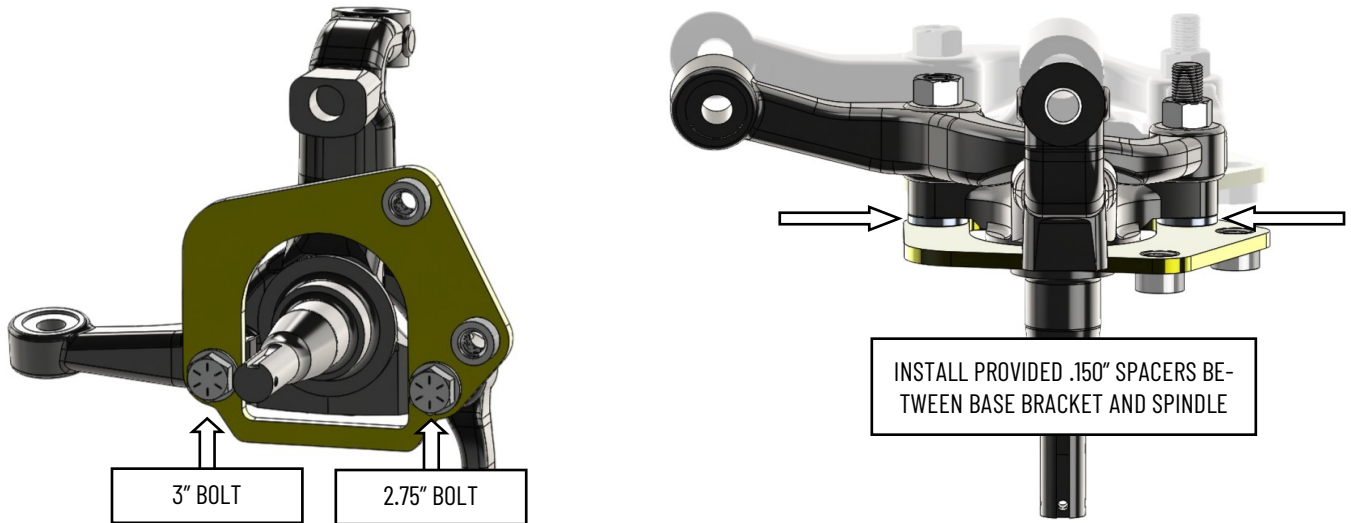

Figure 2. Base bracket installed on left (driver's side) spindle
6. The caliper position will be behind the spindle pin centerline. Install the base brackets to the spindle using the supplied 1/2-20 x 3" and 1/2-20 x 2.75" bolts and locking nuts. Install the provided .150" spacers between the base bracket and the spindle. The longer (3") bolt will be inserted in the steering arm hole closest to the tie rod attaching point. Torque both bolts to 110 ft-lbs. to secure the base bracket to the spindle. See Figure 2 below for reference. **NOTE: Most aftermarket drop spindles will use the top set of mounting holes to mount the base bracket.**